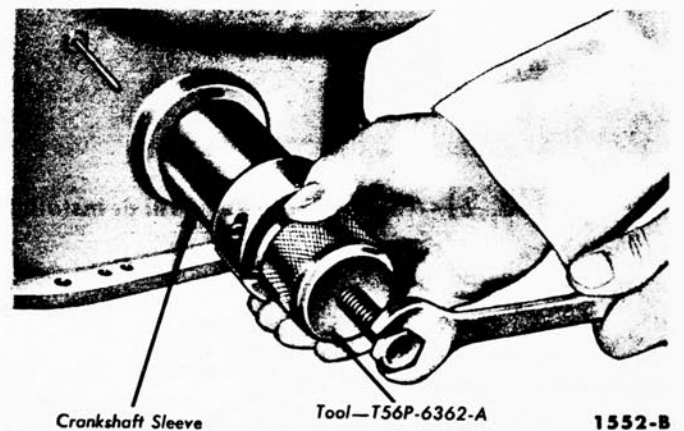

FIG. 20—Crankshaft Sleeve Removal
5. If the crankshaft sleeve is not stepped down (the same O.D. on both ends), remove it as shown in Fig. 20. If the crankshaft sleeve is stepped down (different O.D. on each end), remove it with a three-jawed puller (tool 7675-N).